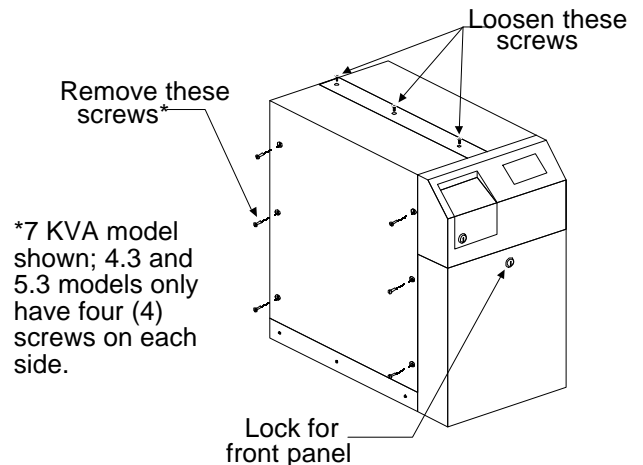

Figure 1
103. Use the FERRUPS key to unlock the lock in the middle of the front panel. (See Figure 1.) Remove the panel. If there is a DC switch behind the front panel, turn it off. Put the panel back on the UPS. **If your UPS has one or more separate battery cabinets**, turn off the DC switch at each battery cabinet or rack.
104. Loosen the three (3) Phillips screws on the bar across the top of the UPS. (See Figure 1.)
105. Remove the Phillips screws on each side of the UPS. (See Figure 1.)
602. Put the side covers back on the FERRUPS and reattach the Phillips screws on each side. (See Figure 1 on page 2.)
603. Tighten the three (3) Phillips screws on the bar across the top of the UPS. (See Figure 1 on page 2.)